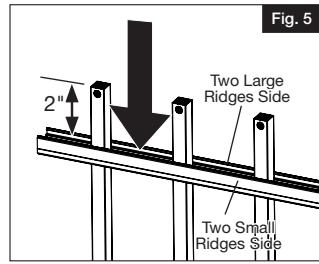

Fig. 5
- b. Insert all balusters through the square holes in both top and bottom rails, making sure the hole in each baluster goes in the same direction facing the side with the two (2) small ridges (Fig. 5).
- c. Make sure the balusters in the rails are about 2" above the rail and in-line with each other (Fig. 5).
- Hold each respective bracket (angled) against the post face, align bracket with stair panel and mark all four (4) ends of the rail panel (Fig. 5).